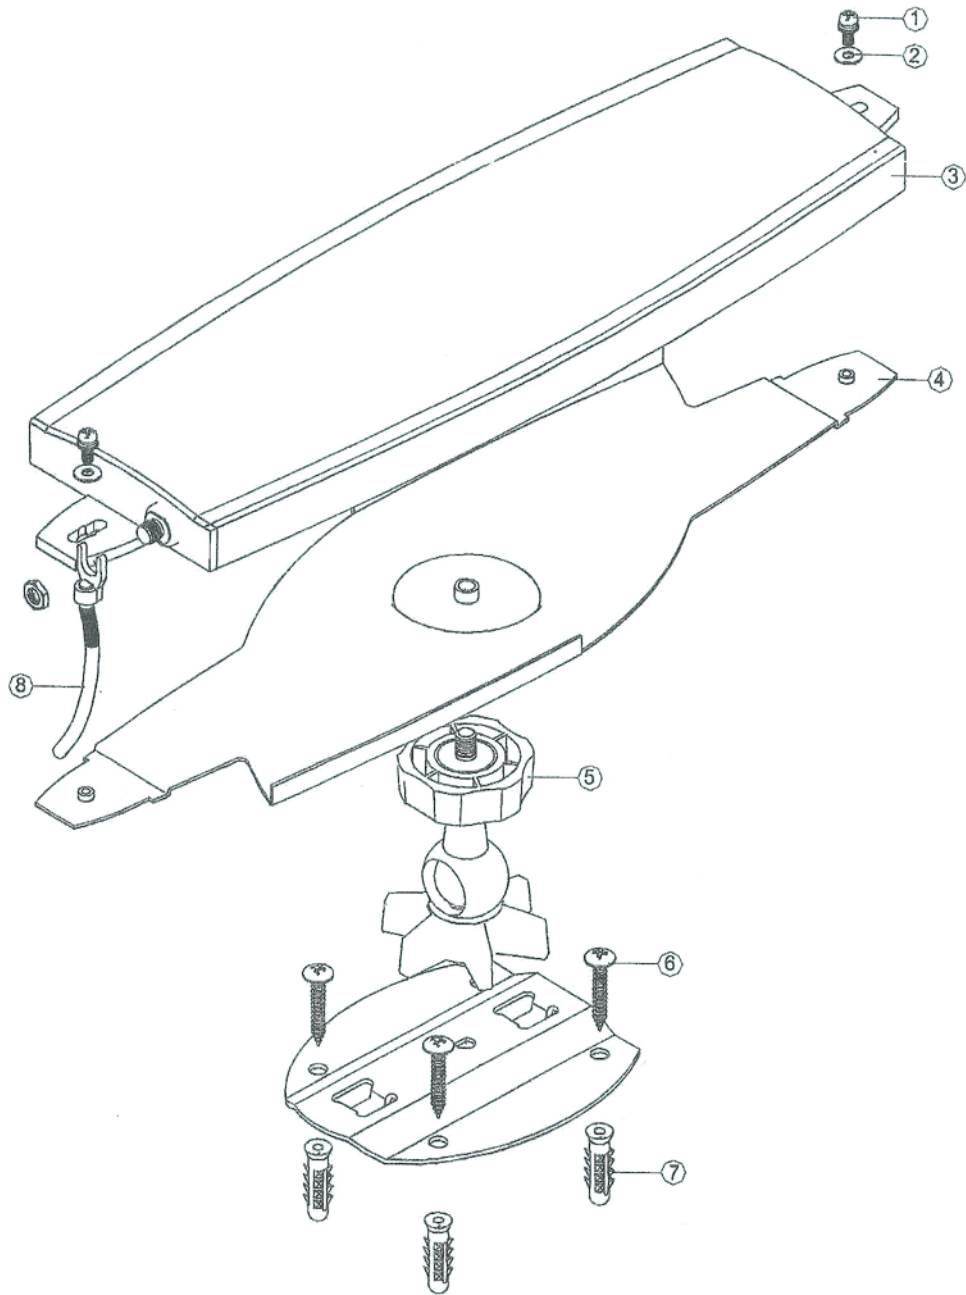

Figure 2-18: Wall Mounting the 3.5 GHz Detached Antenna, with Pan & Tilt Capabilities
- 2 M3*8 Screws (1)
- 2 M3 washers (2)
- Antenna back plate (4)
- U-Joint Set (adjustable arm) (5)
- 4 5/32-16*1TP Wall Screws (6)
- 4 ¼" Wall anchors (7)
- Grounding Wire (8) - Not Used
- 1 Attach the adjustable arm to the wall following the directions in Figure 2-18.
- 3 Screw the back plate to the adjustable arm following the directions in Figure 2-18.